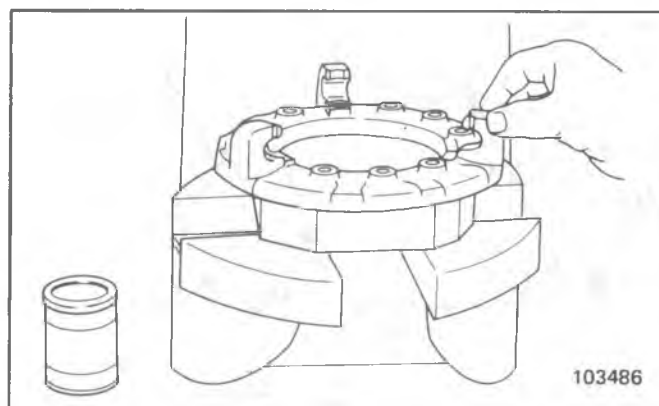

Fig. 7C-21--Greasing Lug
2. Assemble lever, eyebolt and pin, holding eyebolt and lever as close together as possible and with the other hand grasp strut as shown in Fig. 7C-22.
4. Insert lower end of eyebolt in hole in pressure plate. The short end of the lever will then be under the hook of the pressure plate and near the strut, as in Fig. 7C-20.